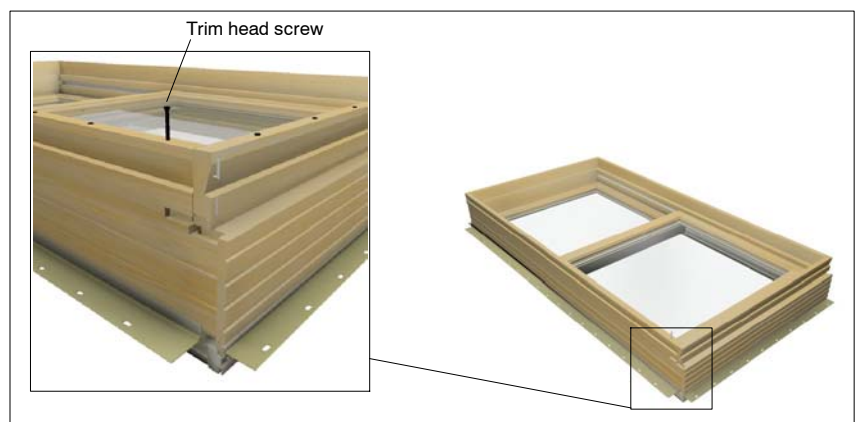

Figure 3: Using trim head screws
1. Position the jamb extension piece as described in the previous sections and drill a 5/64" (2) pilot hole in the interior face of the jamb extension. Be sure to drill the hole straight through the face without breaking out the either side of the jamb extension. Drive the trim head screw and use the appropriate fastener spacing as specified in the previous sections. See figure 3.